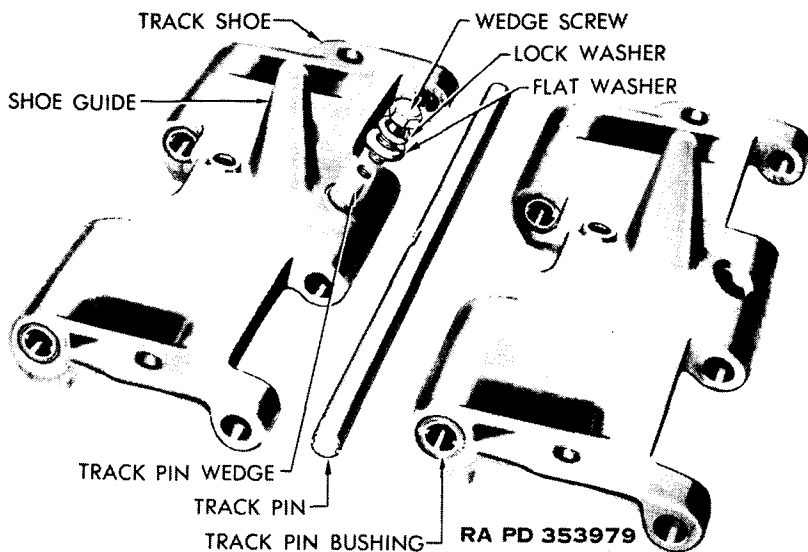

Figure 17. Track shoe disassembled.
a. TRACKS. Two individually driven, light weight steel tracks, 16 inches wide are used to propel the vehicle. Each track is composed of separate track shoes (fig. 17), made of cast steel with integral center guides, and connected together with straight steel hinge pins carried in rubber bushings. On M24 vehicles, the track has 75 shoes; on M41 vehicles, 80 shoes are used.